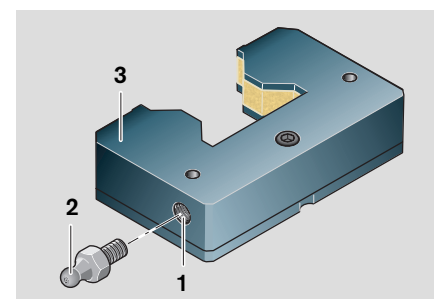

Fig. 1
- Remove the set screw from the lube hole (Fig. 1, item 1) and keep it ready for later use.
- Screw in lube nipple (2).
- Lay front lube units (3) down flat and fill with quantity of oil specified in Table 2. Leave in that position for approx. 36 hours.